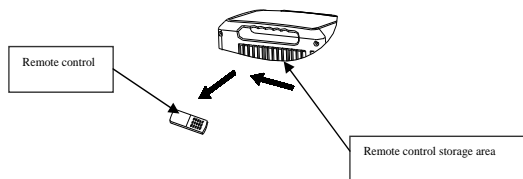

Figure 16
1). Take the remote control out of the remote control storage area in the direction shown by the arrow; (as shown in Figure 16)